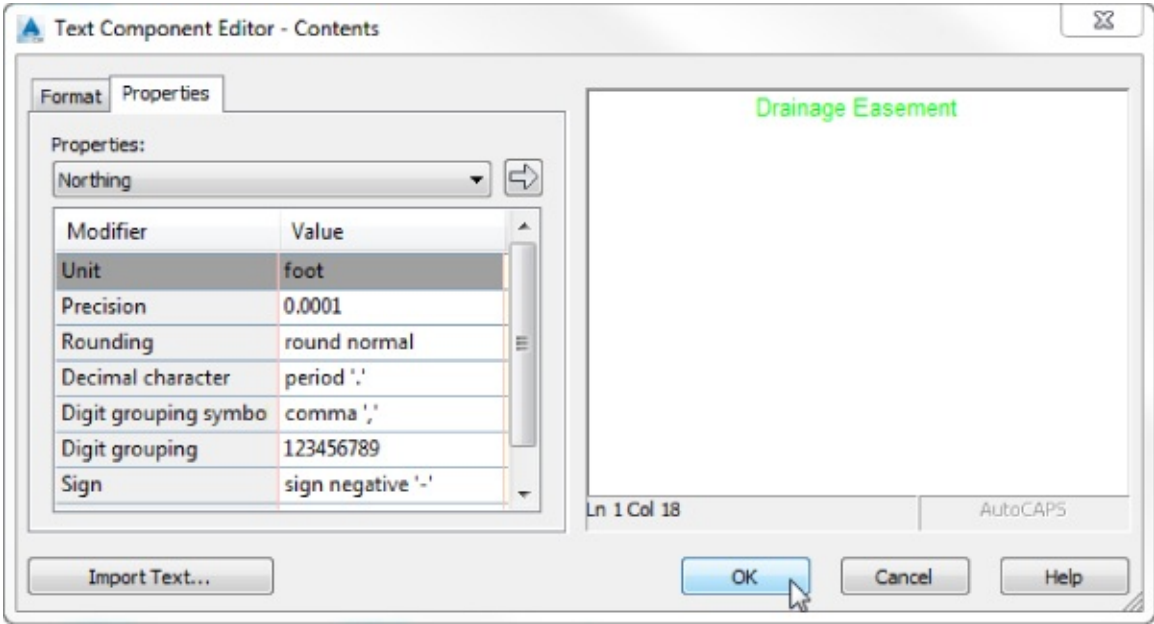

Figure 18.19 Entering the Text Component Editor dialog for basic text
- 8. On the right side of the Text Component Editor dialog, delete the existing text and replace it with **Drainage Easement**, as shown in Figure 18.19. Click OK.